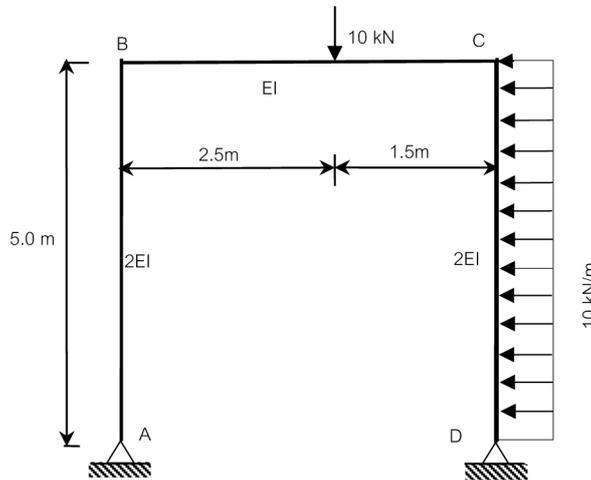

Figure Q.1
- 1 Figure Q.1 shows the loads that are acting on a steel frame. The flexural rigidity of vertical members is $2EI$ and the horizontal member is EI .
- Using the moment distribution method, determine the bending moment diagram annotating prominent values for the frame shown in Figure Q.1. Consider that there is a bracing system to resist the lateral loading. (12 marks)